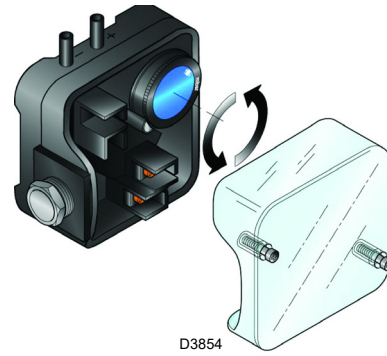

Fig. 23
- Adjust the air pressure switch (Fig. 23) to the start of the scale.
- adjust the maximum air pressure switch (Fig. 23), on the burner's air box, to the start of the scale.
Adjust the air pressure switch after performing all other burner adjustments with the air pressure switch set to the start of the scale (Fig. 23). With the burner operating at MAX. output, increase adjustment pressure by slowly turning the relative knob clockwise until the burner locks out. Then turn the knob anticlockwise by about 20% of the set point and repeat burner starting to ensure it is correct. If the burner locks out again, turn the knob anti-clockwise a little bit more.